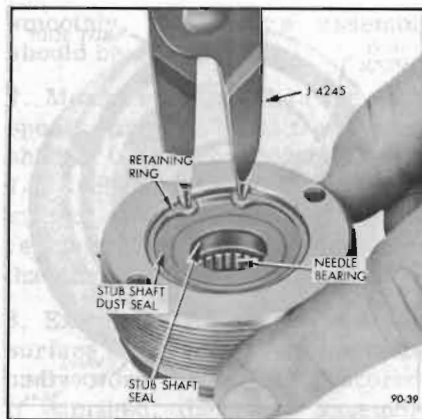

Figure 90-34—Removing Stub Shaft Seal Retaining Ring
3. Remove stub shaft seal retaining ring using No. 3 truearc pliers J-4245 and remove and discard dust seal. See Figure 90-34.